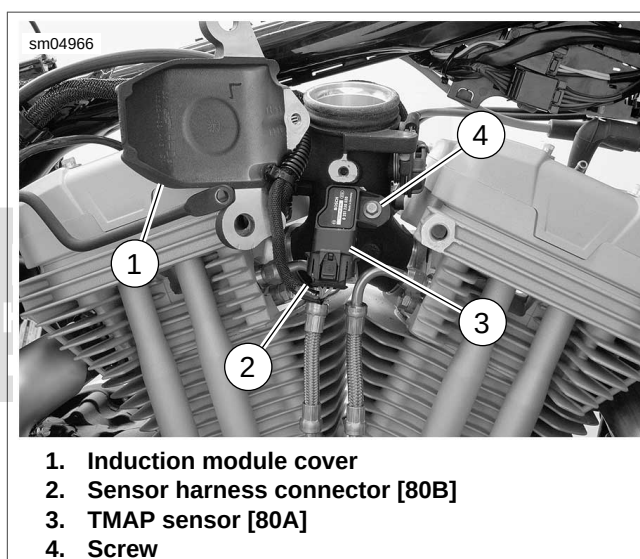

Figure 4-64. TMAP Sensor: XR Models (airbox removed for clarity of photo)
See Figure 4-64. TMAP sensor harness and TP sensor harness are attached to inside of induction module cover (1). It is not necessary to remove the retainer securing these harnesses to the induction module cover in order to access TMAP sensor.
3. See Figure 4-64. Carefully rotate induction module cover (1) out of the way.
4. Unplug TMAP sensor harness connector [80B] (2). Remove screw (4).
5. Grasp TMAP sensor (3) and with a gentle twisting motion, pull sensor straight up out of induction module body.
3. See Figure 4-64. With a gentle twisting motion, insert sensor (3) into induction module with connector [80A] pointing down. Secure sensor to induction module with screw (4). Tighten to 60 **in-lbs** (6.8 Nm).
4. Plug sensor harness connector [80B] (2) into TMAP sensor.